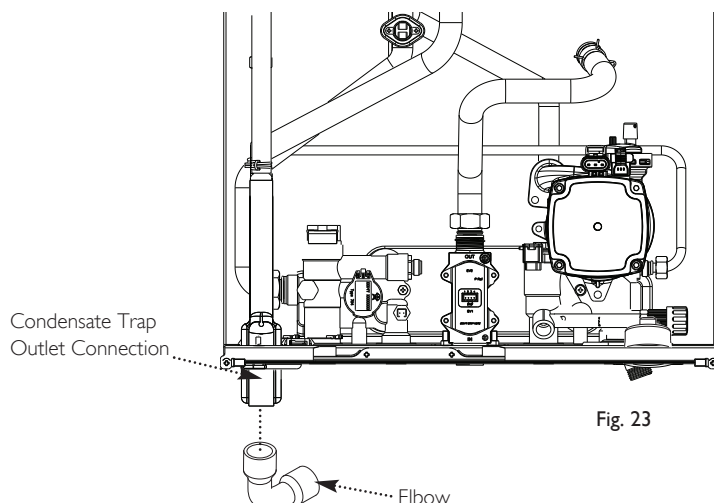

Fig. 23
9.6 Condensate Drain (see section 7.7) (Fig. 23)